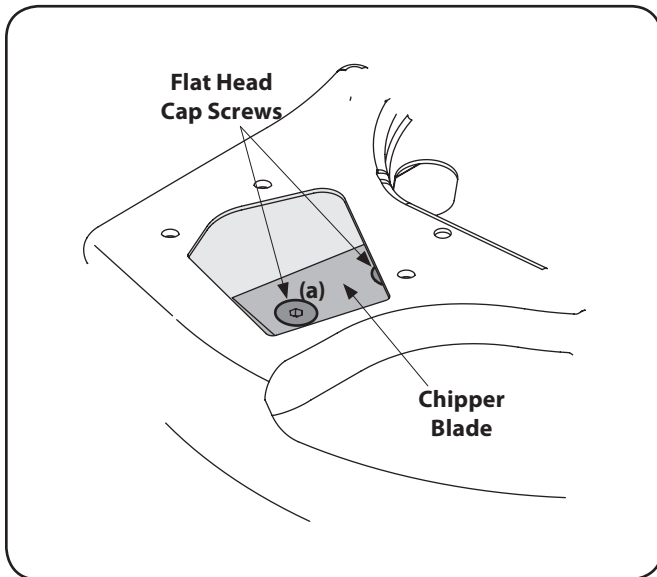

Figure 7-5
- Using a 3/16" allen wrench, remove the flat head cap screws (a) that hold the chipper blade to the impeller. These screws are accessible through the opening created when the chipper chute was removed earlier. See Figure 7-5.